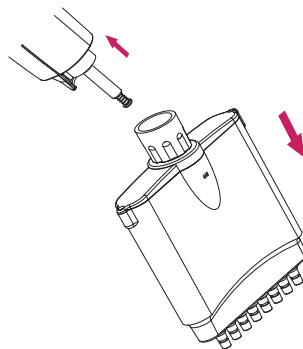

Figure 13: The lower part will come off easily and automatically.
5. The lower part will come off easily and automatically as shown in Figure 13.